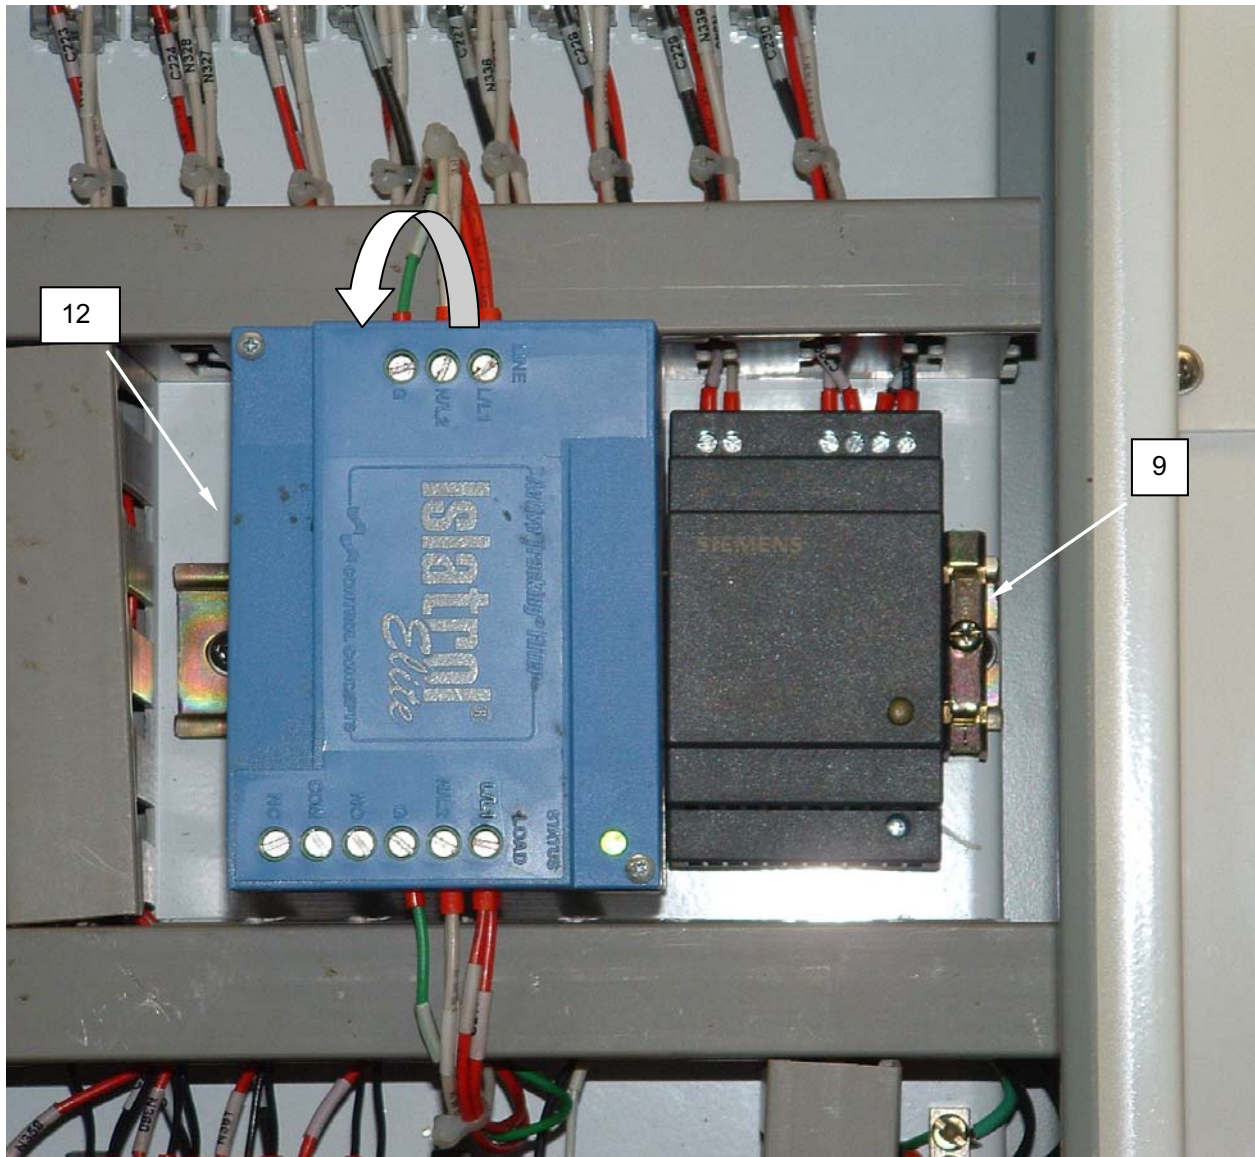

Figure 6. Replace Surge Arrestor.
3. Loosen the screw retaining the clip (**Figure 6, Item 9**) and remove the clip.
4. Tag and disconnect wiring from surge arrestor (**Figure 6, Item 12**).
5. Remove surge arrestor (**Figure 6, Item 12**) by grasping the surge arrestor and pulling the top of the surge arrestor out while pushing the lower part of the surge arrestor in with the heel of your hand.
6. Install replacement surge arrestor (**Figure 6, Item 12**) by engaging the lower part of the surge arrestor first, and then applying pressure to the top with your hand.
7. Connect wiring to replacement surge arrestor (**Figure 6, Item 12**) as tagged.
8. Install the clip (**Figure 6, Item 9**) and retain with screw.